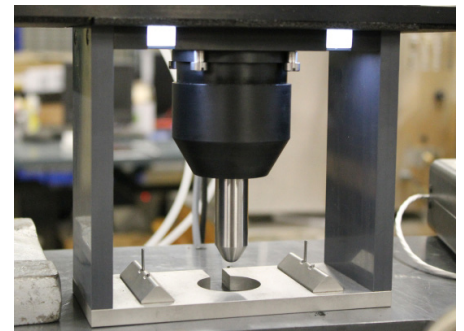

Figure D.6 - Upper portion of shroud attached to Load Cell
5. Once the load nose is secured, lift the upper portion of the shroud around it. Use the back two screws to guide it into place before tightening them and carefully screwing in the front two screws. See Figure D.6.